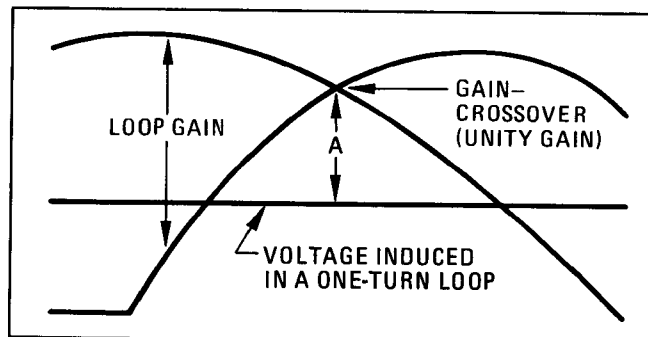

Figure 5-9. Spectrum Analyzer Display of Phase Locked-Loop Gain
6. Press the single sweep pushbutton. Check that the gain-crossover frequency is  $20 \pm 2$  kHz. If the gain-crossover frequency is not correct, A3A9A4R20 must be changed to set the correct frequency. Refer to Figure 5-9.